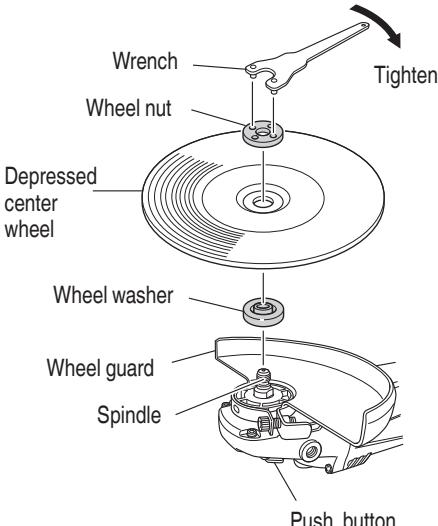

Fig. 5
Make sure that the push button is disengaged by pushing push button two or three times before turning on the grinder. (Fig. 5)
(1) Turn the disc grinder upsidedown so that the spindle is facing upward.
(2) Align the oval-shaped indentation of the wheel washer with the notched part of the spindle, then attach them.
(3) Fit the protuberance of the depressed center wheel onto the wheel washer.
(4) Screw the wheel nut onto the spindle.
- (5) While pushing the push button with one hand, lock the spindle by turning the depressed center wheel slowly with the other hand. Tighten the wheel nut by using the supplied wrench as shown in Fig. 5.
- (6) Wheel size must match guard size; i.e., a new 7" wheel may not be used with a 9" guard.